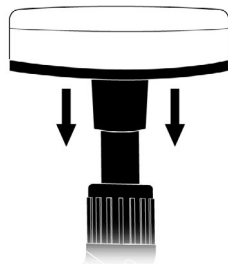

FIGURE 4
1. Place Scrub Pad over tip of Steam Jet Nozzle, and firmly press it on to Steam Jet Nozzle as far as possible (See figure 4). This will help to prevent steam leakage.